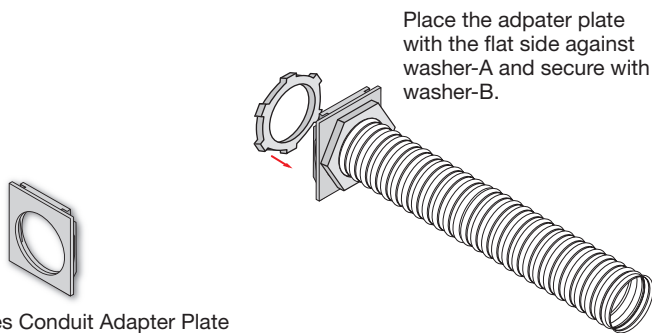

Figure 12. Secure XPA Ultra Series Adapter Plate to Conduit
7. Place the adapter plate that ships with the conduit kit on the conduit with the flat side of the plate facing the hexagonal nut and secure the new adapter plate to the conduit with the washer removed in step 6 (see figure 12).